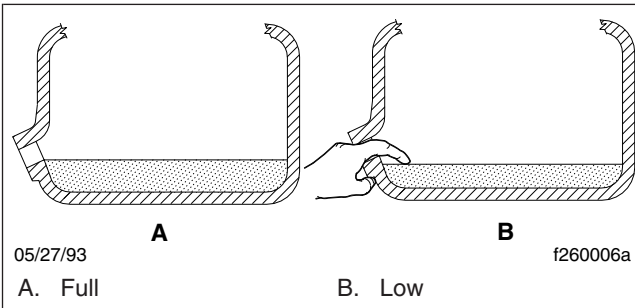

Fig. 1, Checking Transmission Fluid Level
7. Add fluid until it is level with the lower edge of the fill opening. See Fig. 1. If the transmission has two fill openings, add fluid to the level of both openings. See Table 1 for approved trans-